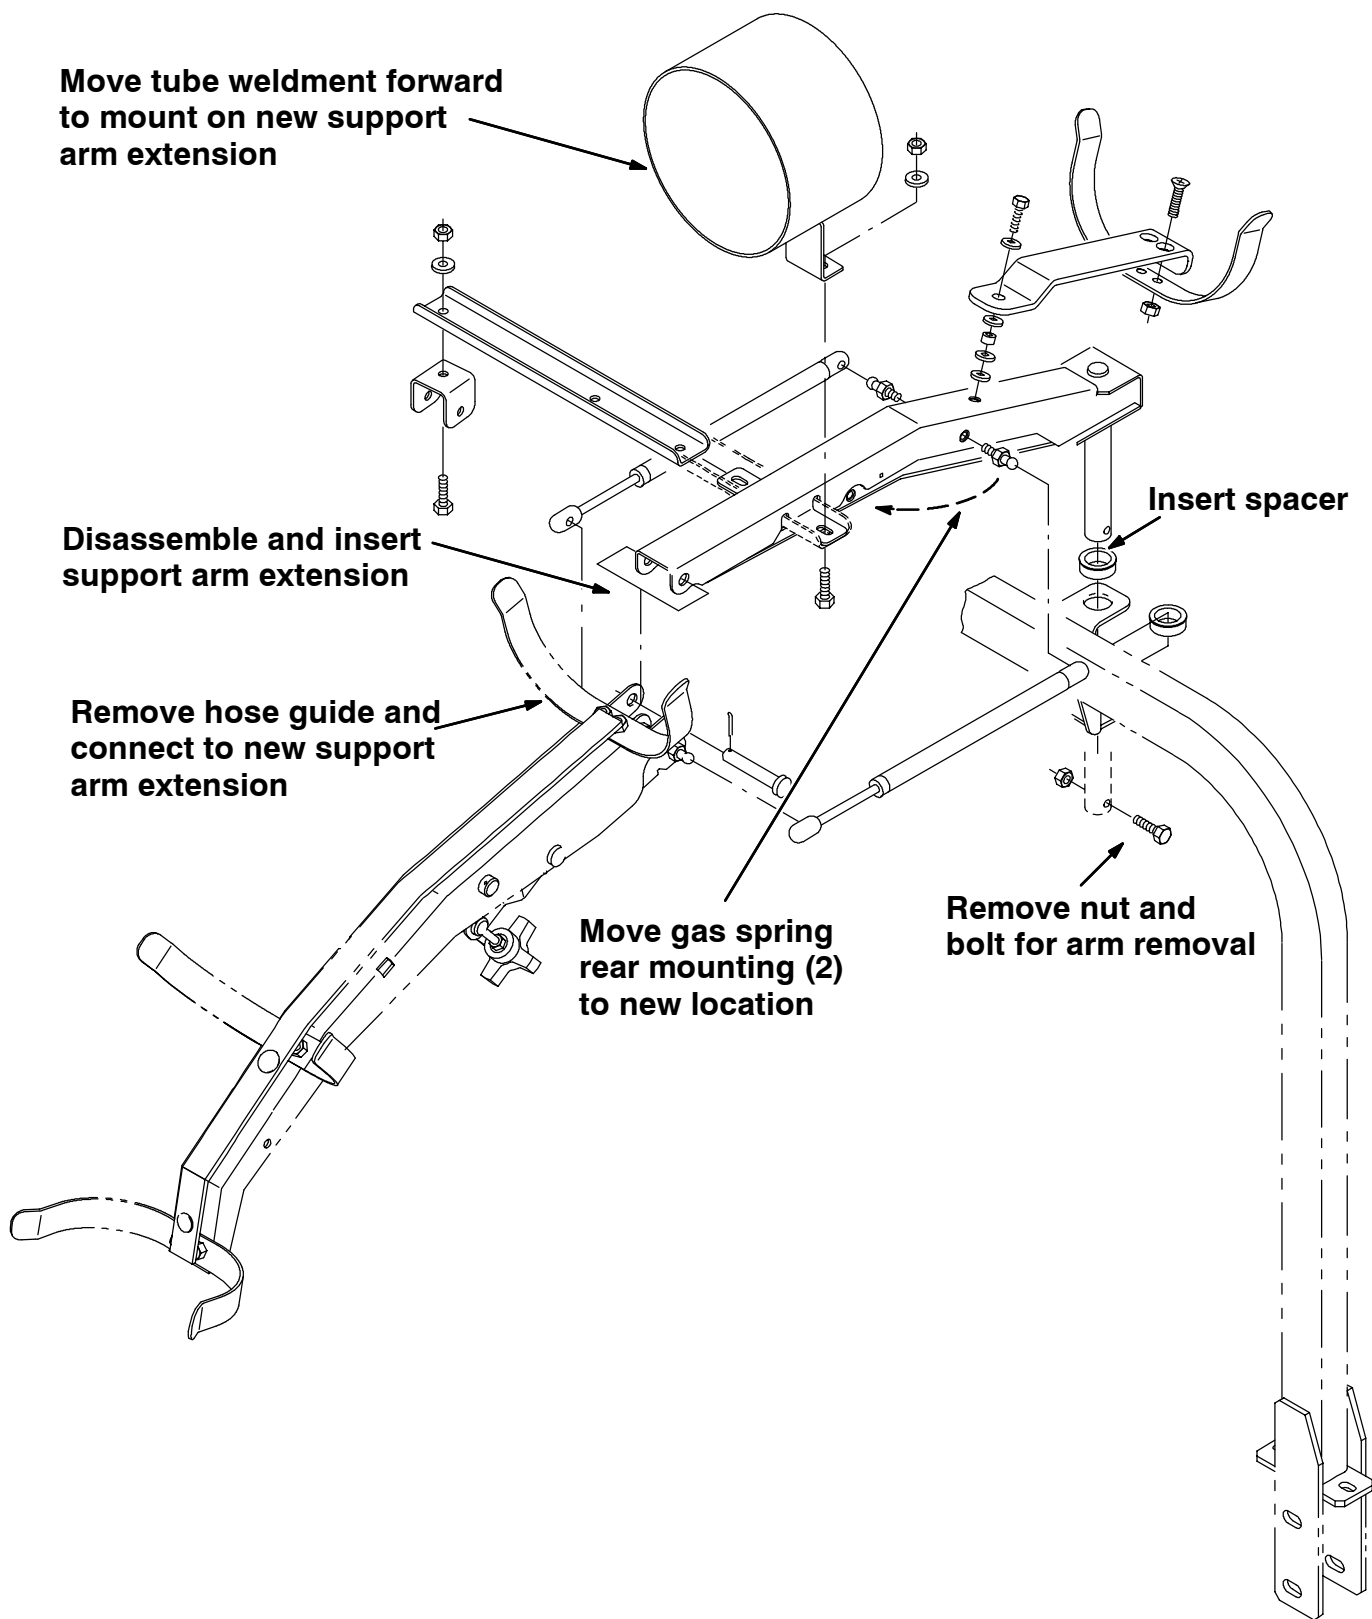

FIG. 2 - VACUUM HOSE SUPPORT ARM BREAKDOWN
5. Remove nut and hex screw, and remove support arm from machine. (Refer to FIG. 2)
6. Carefully hoist open cab (1) into position on the machine.
26. Move hose guide and tube weldment to new mounting bracket (17). (Refer to FIG. 2 and 4)
27. Install new vacuum hose mounting bracket (17) in vacuum support arm. (Refer to FIG. 2 and 4)
28. Move both gas spring rear mountings forward to their new locations on the vacuum support arm. (Refer to FIG. 2)
29. Remount vacuum support arm onto machine with new spacer tube (7). (Refer to FIG. 2 and 3)